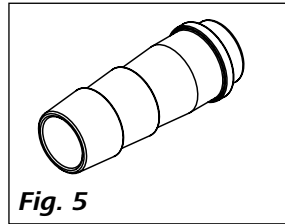

Fig. 5
- Hose olive NW 12 (2 pieces) see **Fig. 5**